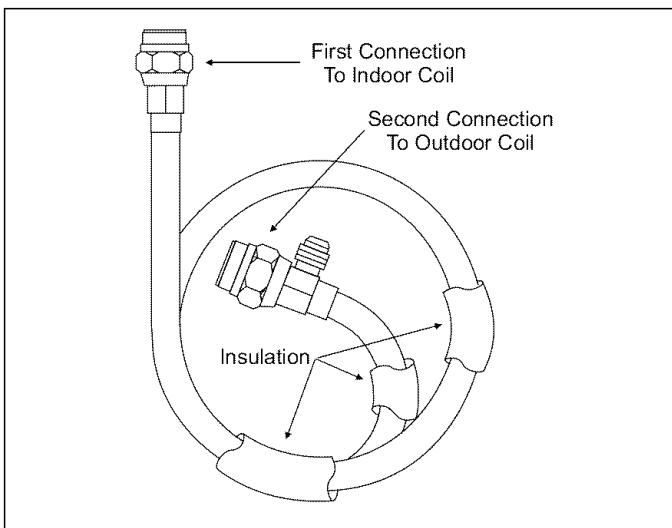

FIGURE 6: Quick Connect Refrigerant Line
7. Install refrigerant lines to indoor coil first. (The couplings without Schrader valves are to be connected to the indoor coil. See Figure 6.